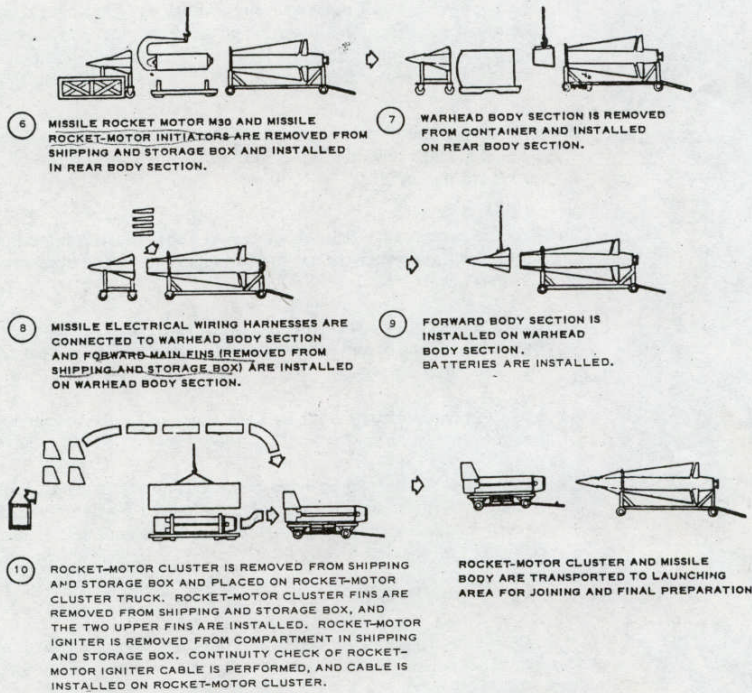

Figure 3-17. Service area operations flow chart.
- a. General. Operations performed in the service area are illustrated in figure 3-17. At the conclusion of these operations, the missile body and rocket-motor cluster are transported on their respective trucks to the launching section area.
- (1) Remove the forward body section from the testing fixture assembly and place it on the forward body section truck. Remove the testing fixture assembly. Remove the blast tube shipping support, the two thermostats, and initiator wiring harness from the forward end of the missile motor section.
- (2) Unpackage the missile rocket motor and inspect the propellant grain for cracks.
- (3) Attach the missile rocket-motor hoist beam and, using the portable hoist unit, raise the missile rocket motor and aline it with the missile motor section (fig 3-17(6)).
- (2) Roll the components out on the movable tracks and attach the warhead body section hoist beam.
- (3) Using the portable hoist unit, bolt the warhead body section to the rear body section (fig 3-17(7)).
- (4) Install the transponder control group and warhead wiring harnesses. These run from the missile distribution box in the equipment section along the outside of the missile body under rear and forward main fins Nos. 3 and 4, respectively, and through openings at the forward end of the warhead body section.
- (5) Remove the fail-safe control and sequential timer from the forward body section and install them at the front end of the warhead body section.
- (6) Connect the fail-safe control wiring harness to the transponder control group wiring harness, the safety and arming device mounting plate, the fail-safe control, and the sequential timer.
- (7) Bolt the four forward main fins to the warhead body section (fig 3-17(8)) insuring that fins Nos. 3 and 4 properly cover the wiring harnesses.
- (1) Using the portable hoisting unit, lift the forward body section from the forward body section truck and join it to the warhead body section (fig 3-17(9)).
- (2) Connect the transponder control group wiring harness (emerging from the warhead body section) to the transponder control group connector in the forward body section.
- (1) Uncrate and inspect the rocket-motor cluster fins.
- (2) Remove the top of the rocket-motor cluster shipping container and inspect the rocket-motor cluster. Remove the four rocket-motor igniter containers and store them in the igniter storage area. Remove the plastic shipping plug at the head of each rocket motor and inspect the interior. Replace the plastic shipping plugs.
- (3) Using the rocket-motor cluster hoist beam, and portable hoisting unit, lift the rocket-motor cluster from its shipping container and place it on the rocket-motor cluster truck (fig 3-17(10)).